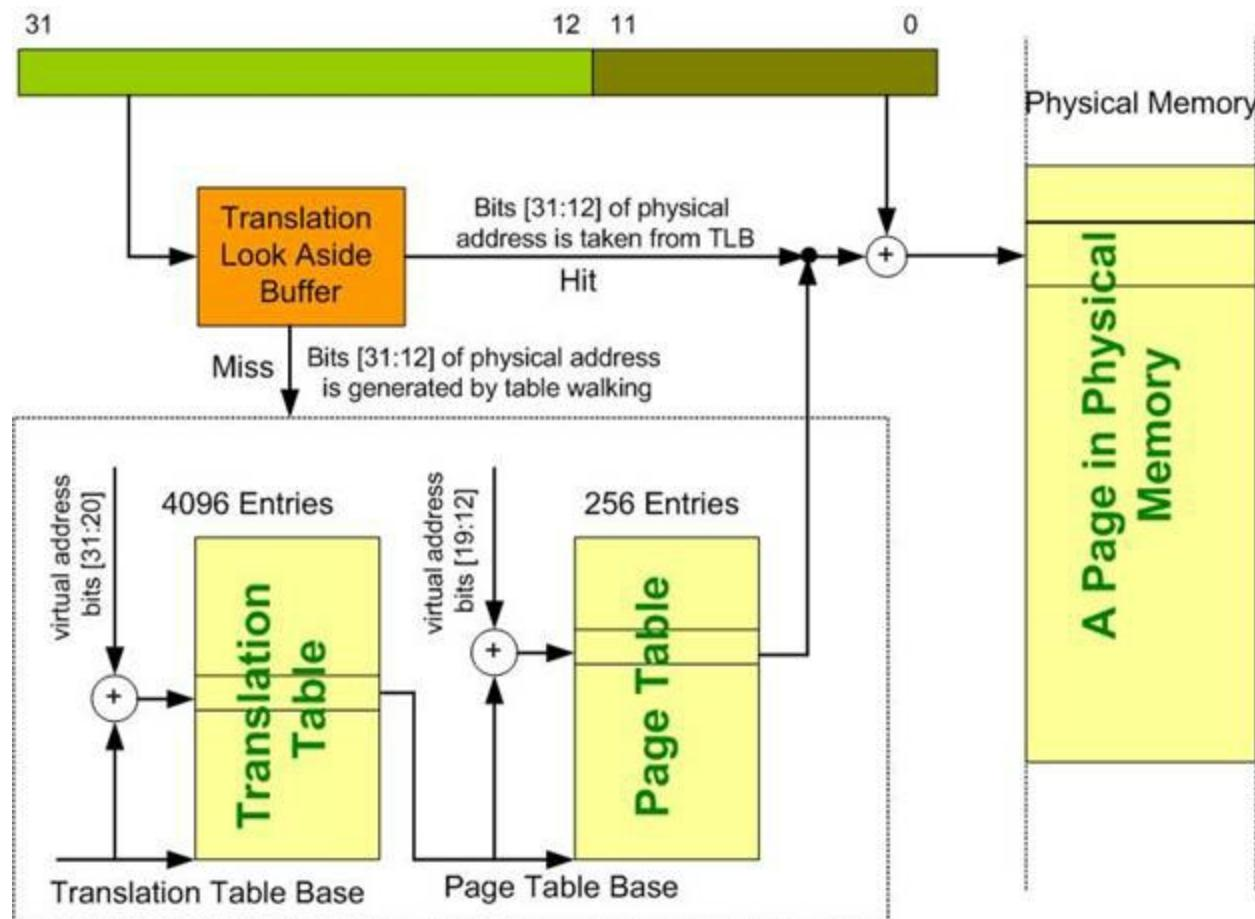

Figure 15-5: Translation Look Aside Buffer in ARM
- (1) If it matches (TLB hit), it picks the 20-bit physical address (A31-A12) of the page and combines it with the lower 12 bits of the virtual address (A11-A0) to make a 32-bit physical address (A31-A0) to put on the 32 address pins to fetch the data (or code);
- (2) If it does not match (TLB miss), the CPU walks through the table and replaces the TLB entry. This will take several extra memory cycle times since it must go through 2 levels of translation. The ARM literature refers to this translation as table-walking. In the 4K page, there are two levels of table-walking level 1 and level 2. The goal is to have minimum page faults (TLB misses) and avoid table-walking. To do that we can increase the TLB size. Next, we discuss the pros and cons of bigger TLBs. See Figure 15-5.